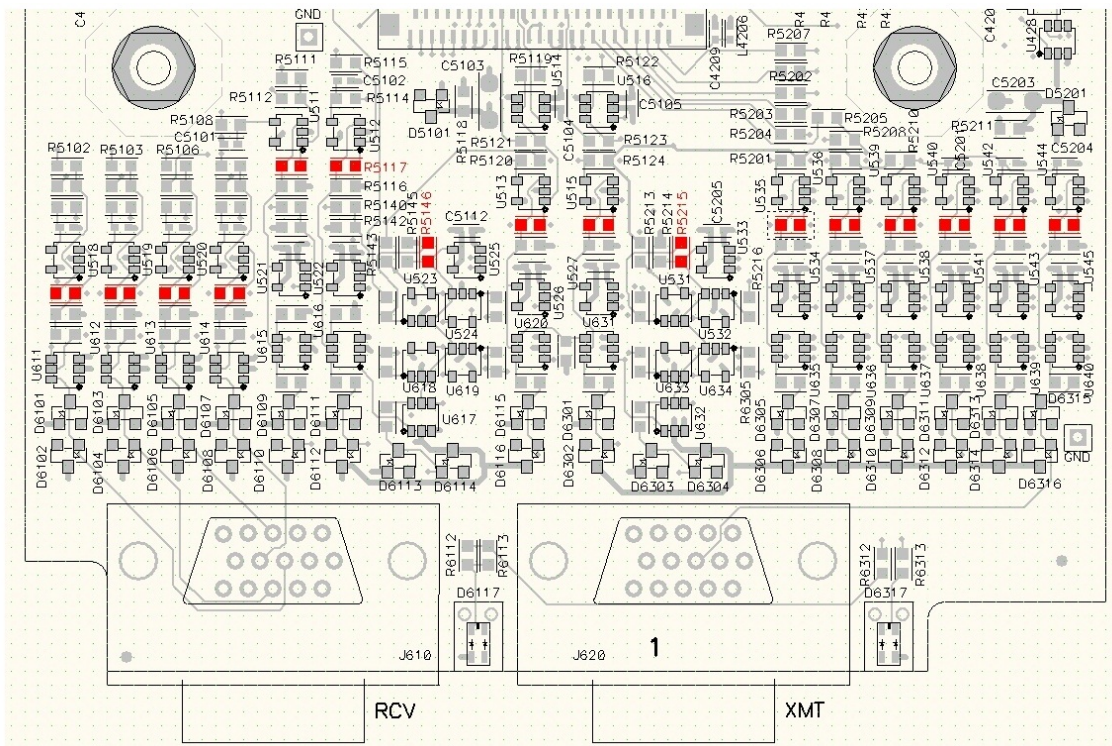

Figure 2 Resistors on the DSIO main board that will be removed.
10. Position the instrument with the front facing you and identify the locations of the sixteen resistors to be removed. Please see Figure 2 as a reference locator.